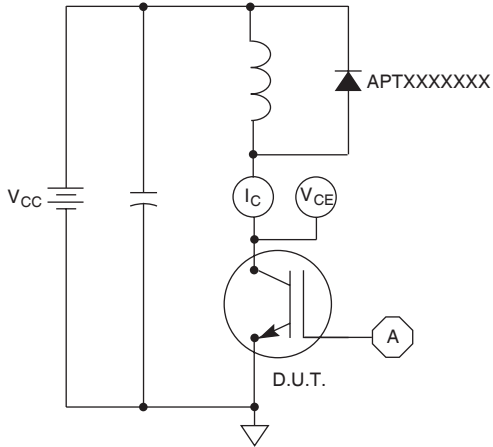

Figure 21, Inductive Switching Test Circuit
- ⑤ E_{on2} is the clamped inductive turn-on energy measured in accordance with JEDEC standard JESD24-1. (See Figures 21, 22.)
- ⑥ E_{off} is the clamped inductive turn-off energy measured in accordance with JEDEC standard JESD24-1. (See Figures 21, 23.)